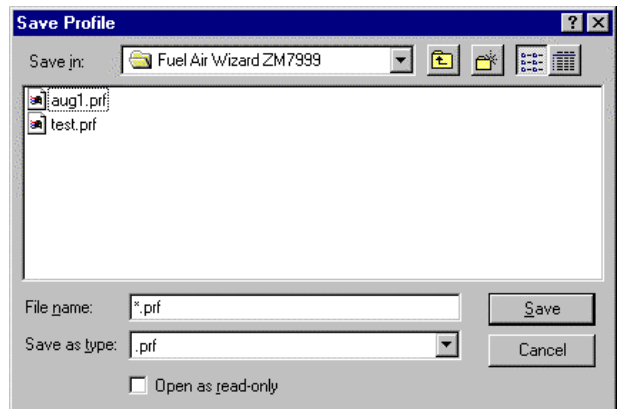

Fig. 20. Save Profile Screen.
- Save the profile you created to a file on your PC or disc for reference or future use. Fig. 20 through 31 illustrate creating the profile curve.
- Save Profile—Press this button to save the curve you have created to a file on your PC or disc. When you press the button, a File search window opens and you can navigate to the directory you want to save the file in (Fig. 20). Use a descriptive filename for the file. The extension (.prf) is automatically added when you press *Save* to save the profile.